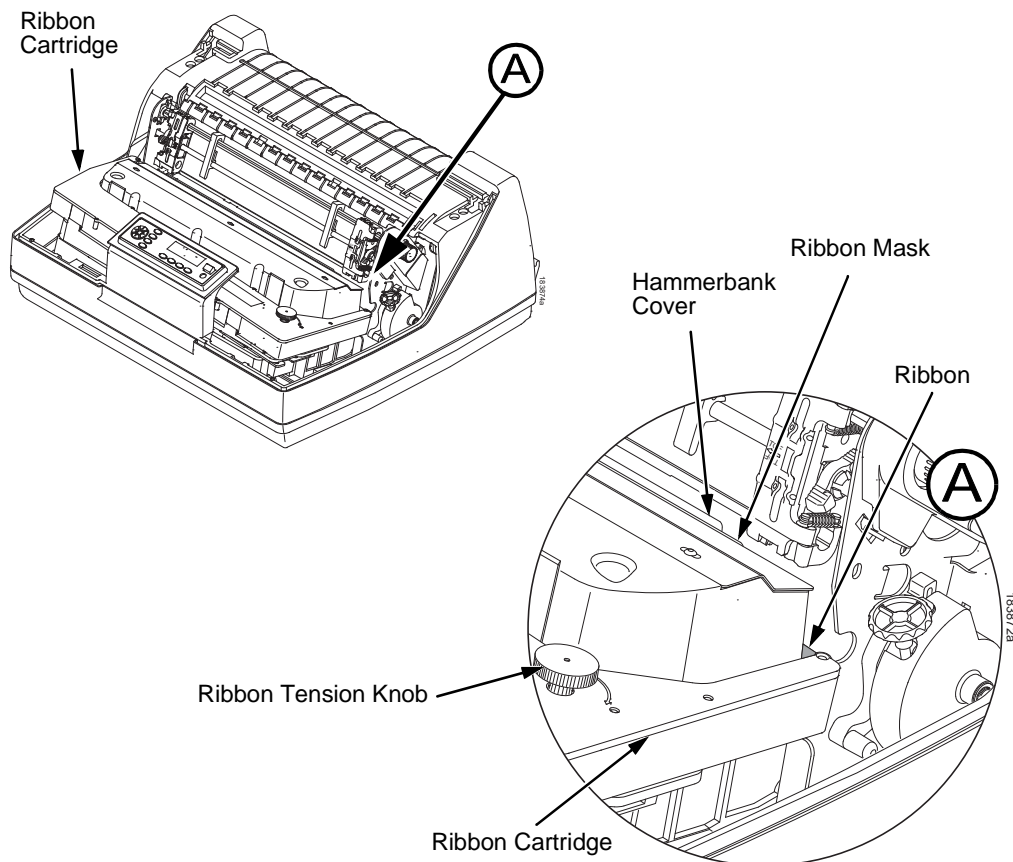

Figure 22. The Ribbon Cartridge Snapped in Place
7. Rock the cartridge downward, making sure that the ribbon goes between the guide and the mask (see Figure 22). You will feel it snap into place.